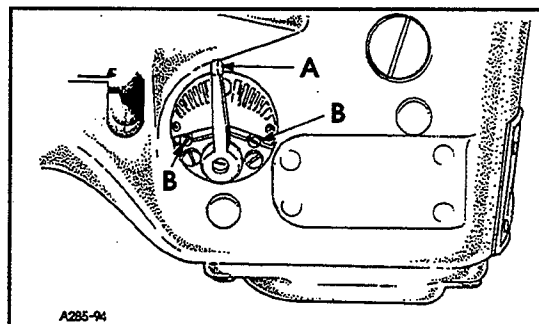

FIG. 19
The amount of differential is controlled by lever (A, Fig. 19). The adjusting plate is numbered from 1 to 9. When the lever is set from numbers 1 to 4 reverse differential or stretching occurs. The numbers from 4 to 5 produce equal feed stitching while numbers 5 to 9 produce a gathering stitch. Screws (B) can be set to limit the movement of lever (A) or lock lever in one position. If top ply is coming out long, move lever toward operator, if top ply is short, move lever away from operator, as required.